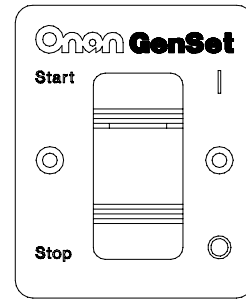

FIGURE 2-3. REMOTE SWITCH
- Remote switch / status lamp (Figure 2-3).